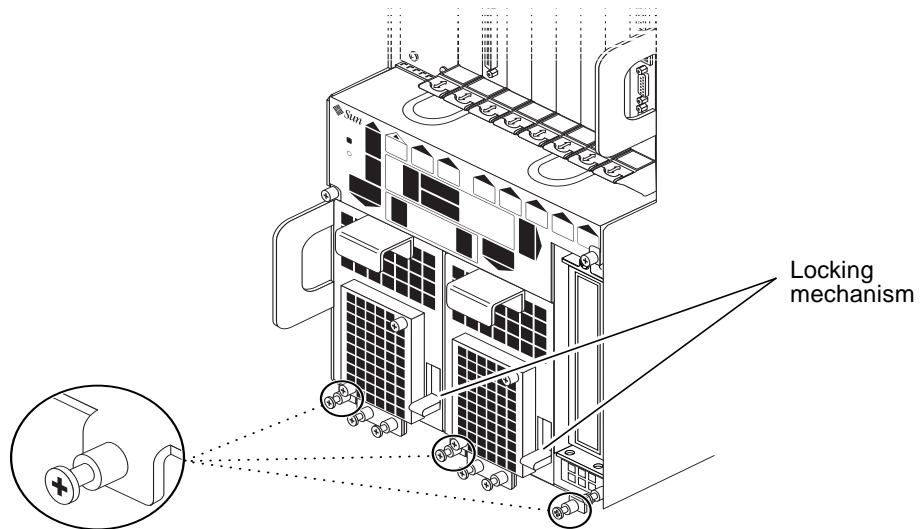
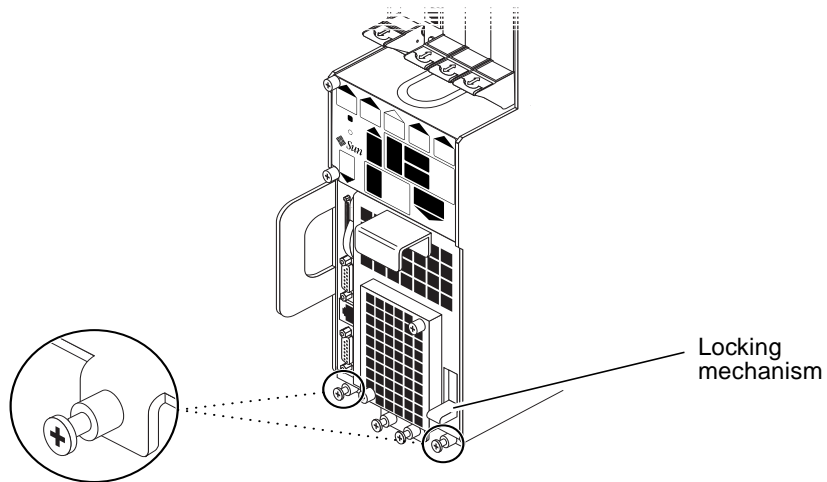

FIGURE 3-5 Loosening the Screws at the Bottom of a Netra ct 800 Server
FIGURE 3-6 Loosening the Screws at the Bottom of a Netra ct 400 Server
- If you are removing a Netra ct 800 server, loosen the *three* black captive screws at the bottom of the server (FIGURE 3-5).
- If you are removing a Netra ct 400 server, loosen the *two* black captive screws at the bottom of the server (FIGURE 3-6).
FIGURE 3-5 shows the location of the two power supply unit locking mechanisms on the Netra ct 800 server, and FIGURE 3-6 shows the location of the single power supply unit locking mechanism on the Netra ct 400 server. Make sure you unlock *both* power supply units if you are replacing an Netra ct 800 server, or you will not be able to remove the server from the chassis.